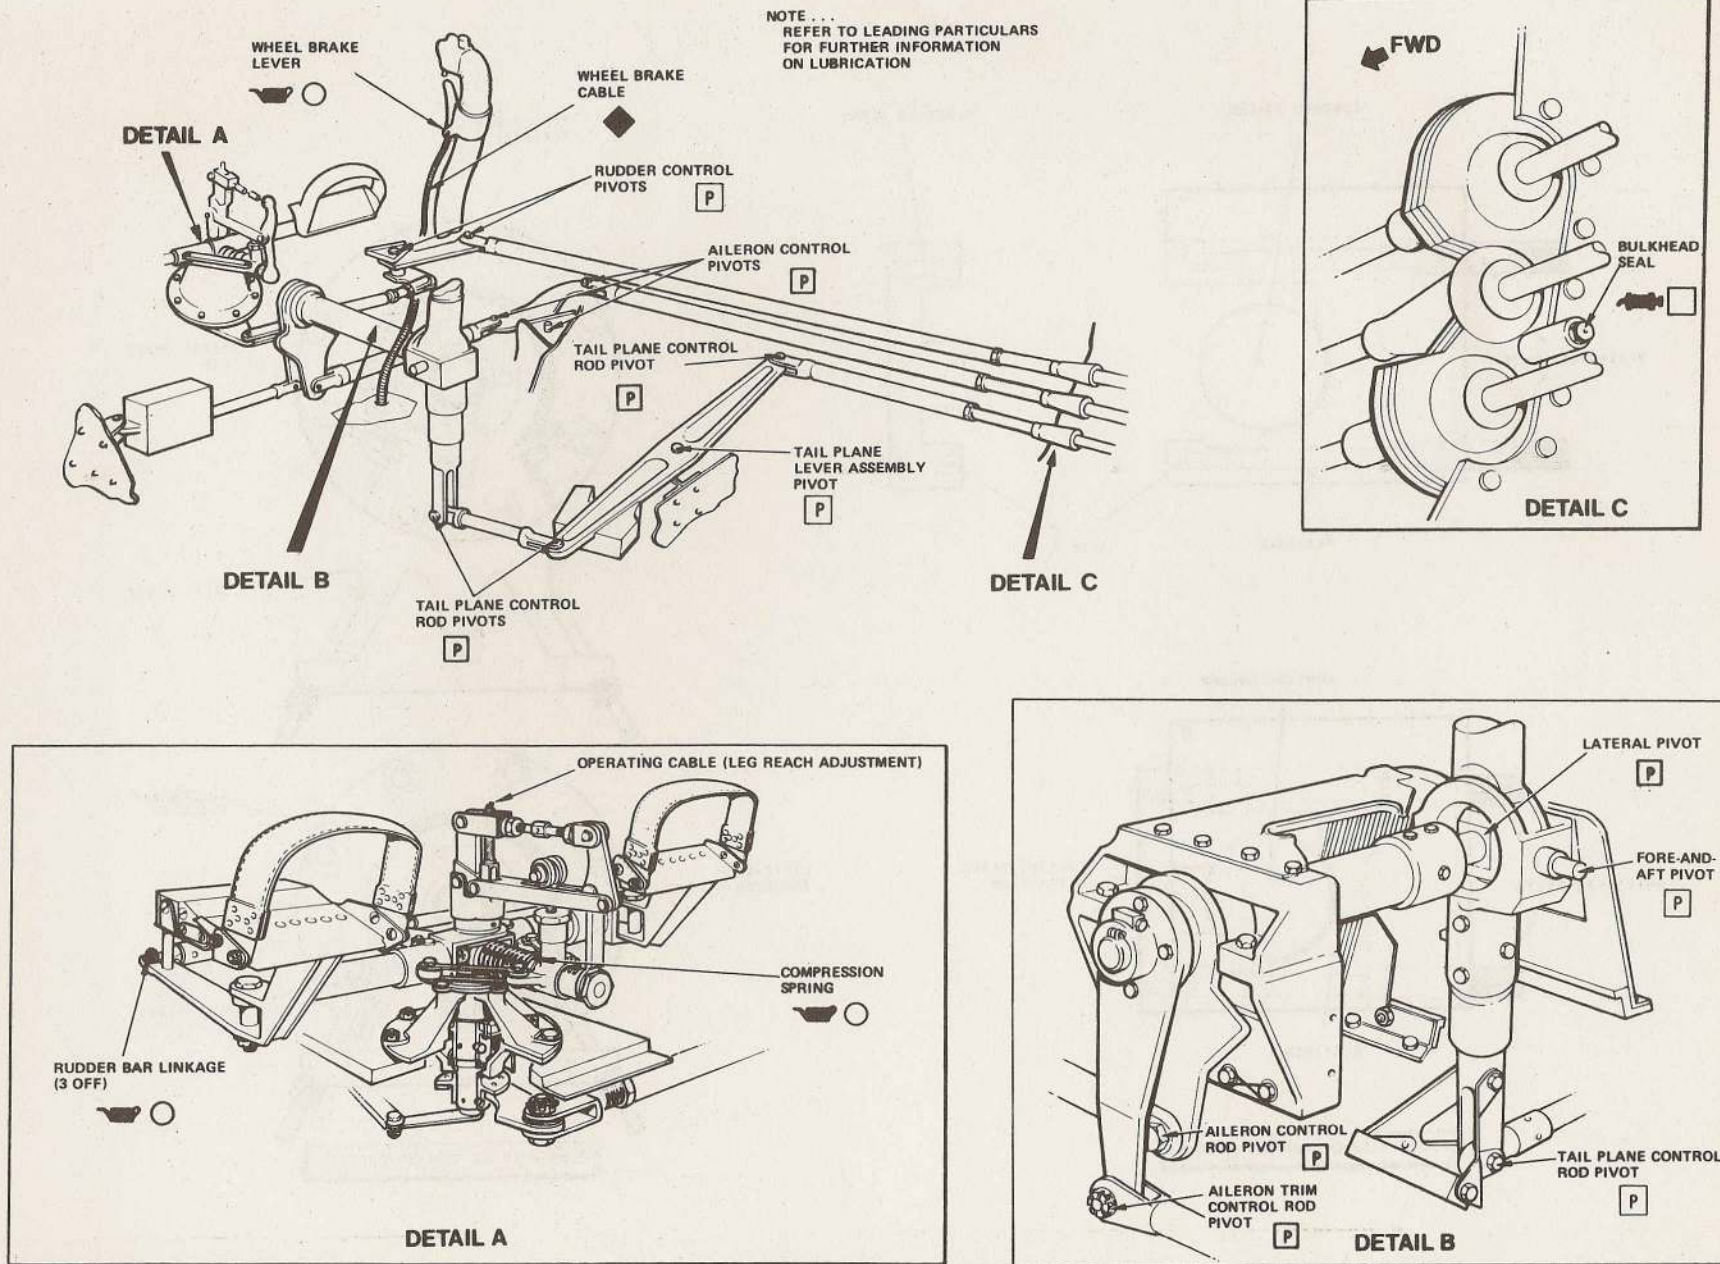

FIG. 6. LUBRICATING POINTS
15. Details of lubrication are shown in fig.6 and the key to lubricant and application symbols, together with their full designations, are to be found in Leading Particulars. ▶